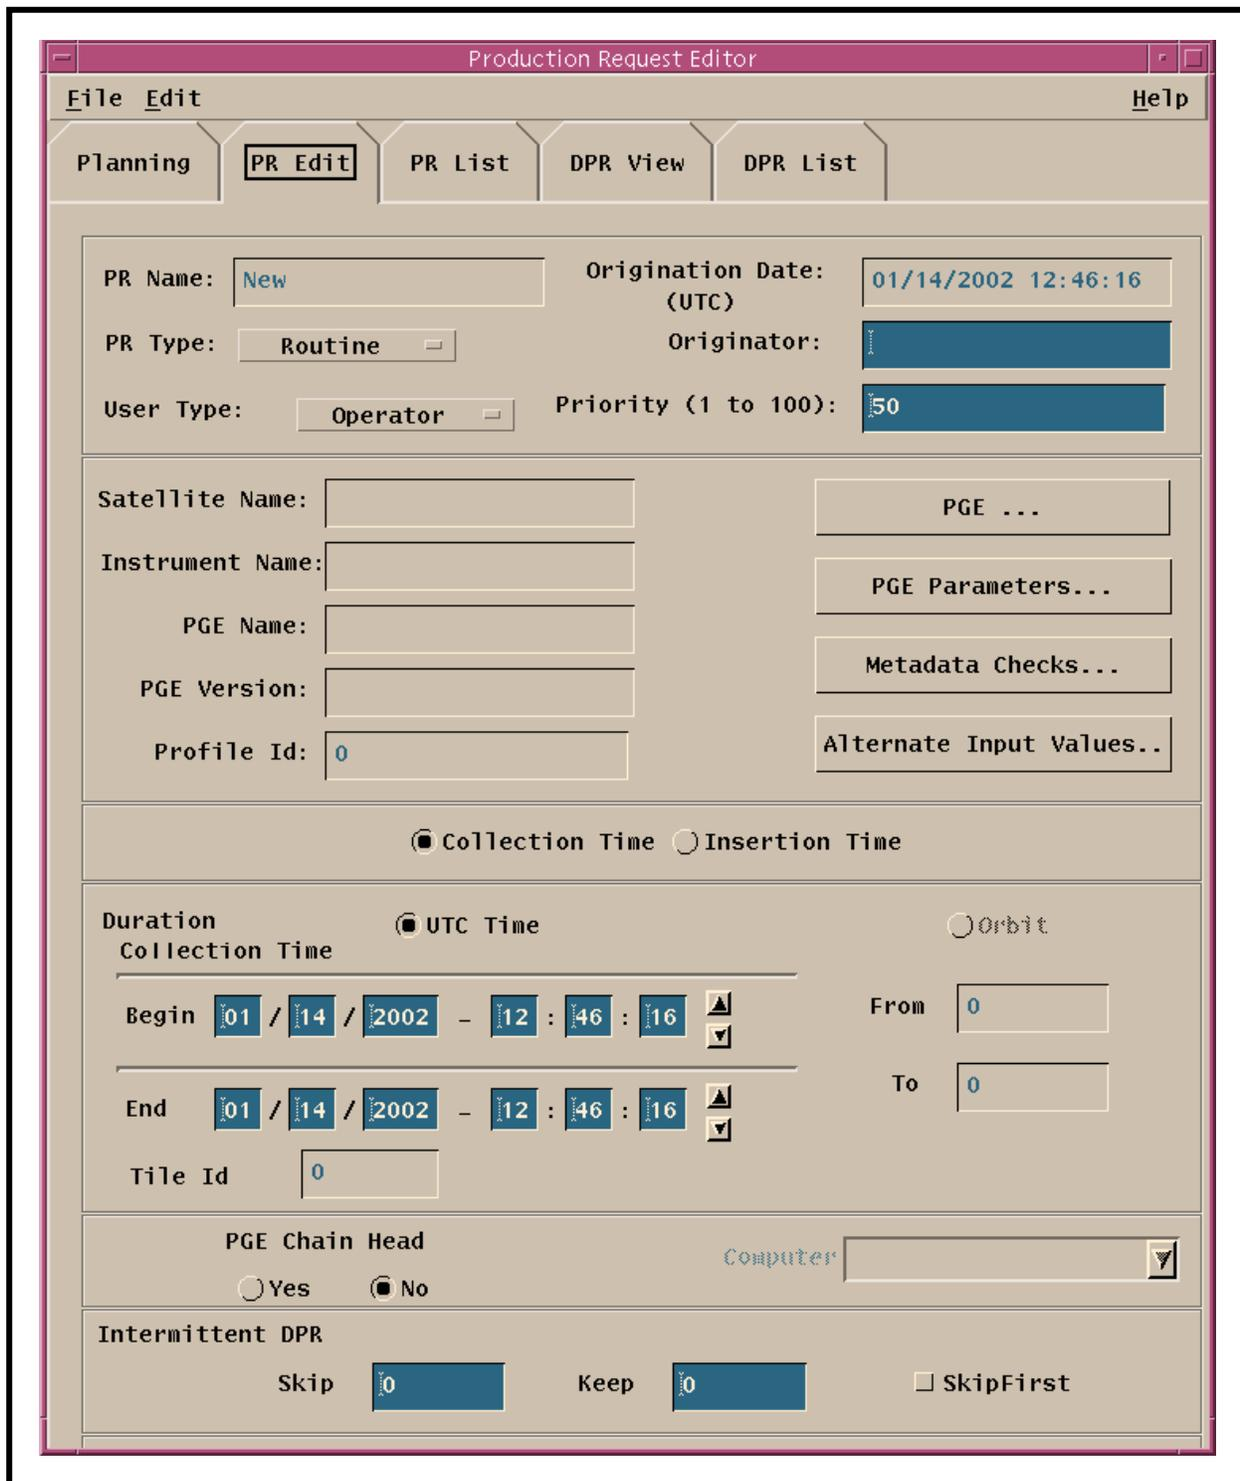

Figure 18. PR Edit GUI
- The **PR Edit** GUI (Figure 18) is displayed.
- The **Production Request - PR Edit** GUI (Figure 18) is displayed.